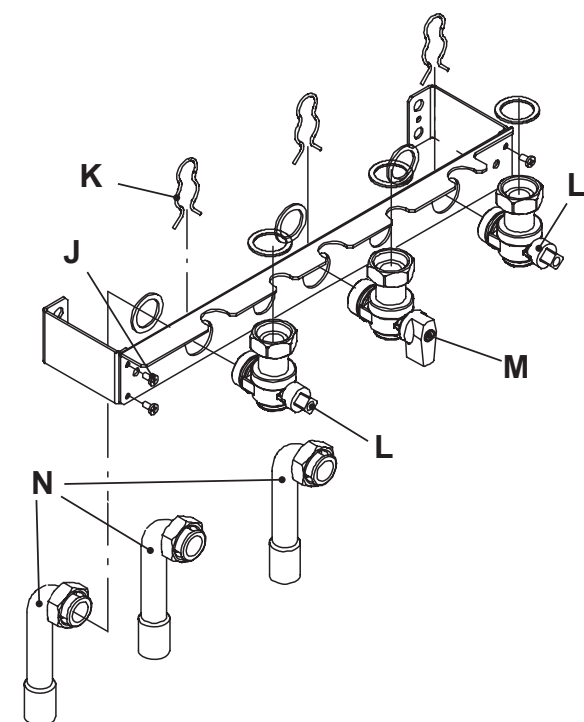

Fig. 6.3
- Assemble the pre-piping kit bracket by screwing the four screws "J" Fig. 6.3.